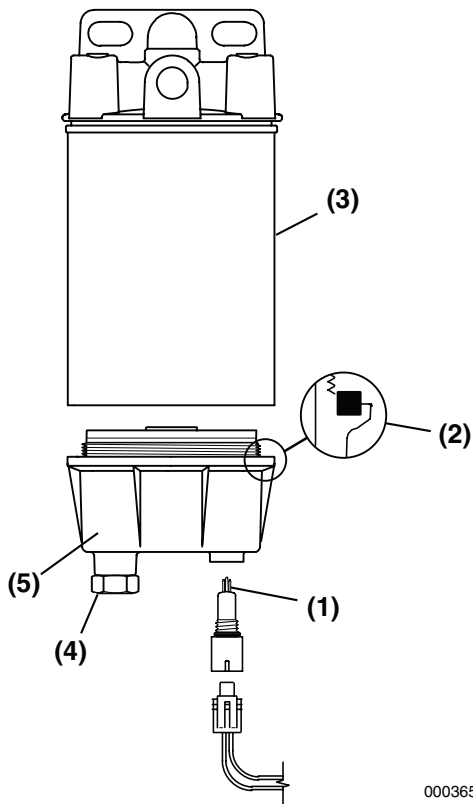

Figure 4-6
3. Loosen the drain plug (Figure 4-6, (4)) on the bottom of the fuel filter / water separator and drain off any water or sediment.
4. Disconnect water sensor (**Figure 4-6, (1)**).
5. Turn the filter bowl (**Figure 4-6, (5)**) counterclockwise to remove.
7. Clean the filter bowl. Inspect the water sensor (**Figure 4-6, (1)**) for damage. Inspect the bowl seal (**Figure 4-6, (2)**).
8. Lubricate the seal at the top of the new filter element (**Figure 4-6, (3)**) and install.
9. Lubricate the filter bowl seal (**Figure 4-6, (2)**) and install the filter bowl (**Figure 4-6, (5)**). Turn clockwise by hand to tighten.
10. Ensure drain plug (**Figure 4-6, (4)**) is securely tightened.
11. Connect water sensor (**Figure 4-6, (1)**).